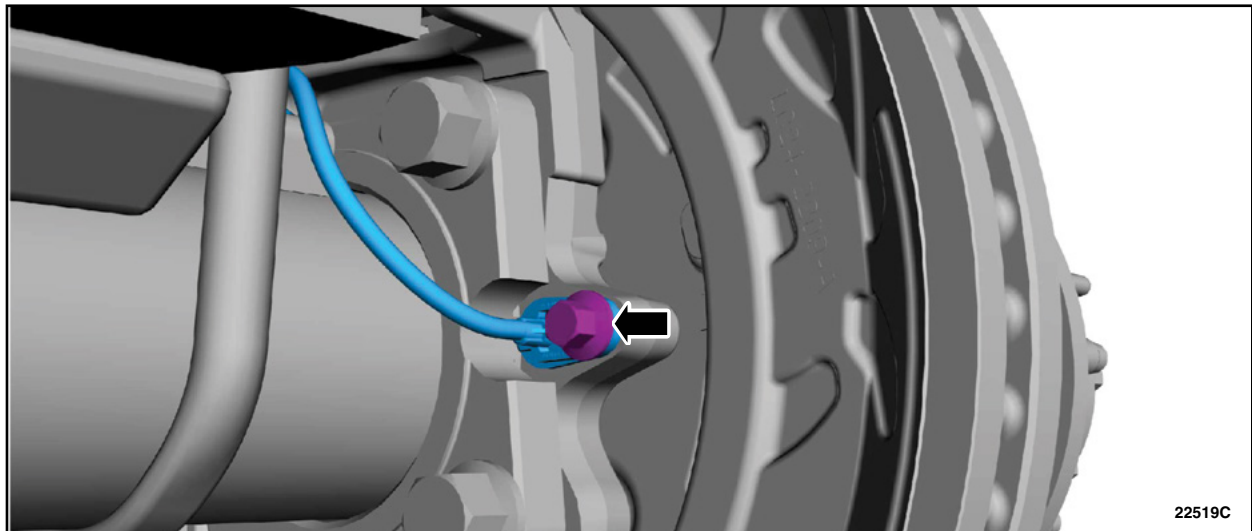

FIGURE 3
4. Remove the rear wheel speed sensor bolt, spacer and the sensor on both sides of the vehicle. See Figure 3.